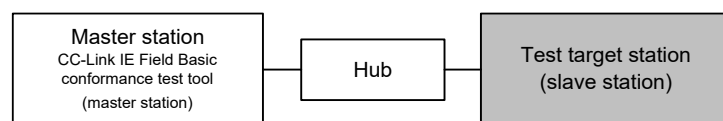

Figure 1 Basic test configuration
(1) Test configuration and precautions
- If not otherwise specified, the test should be conducted in the basic test configuration of Figure 1.